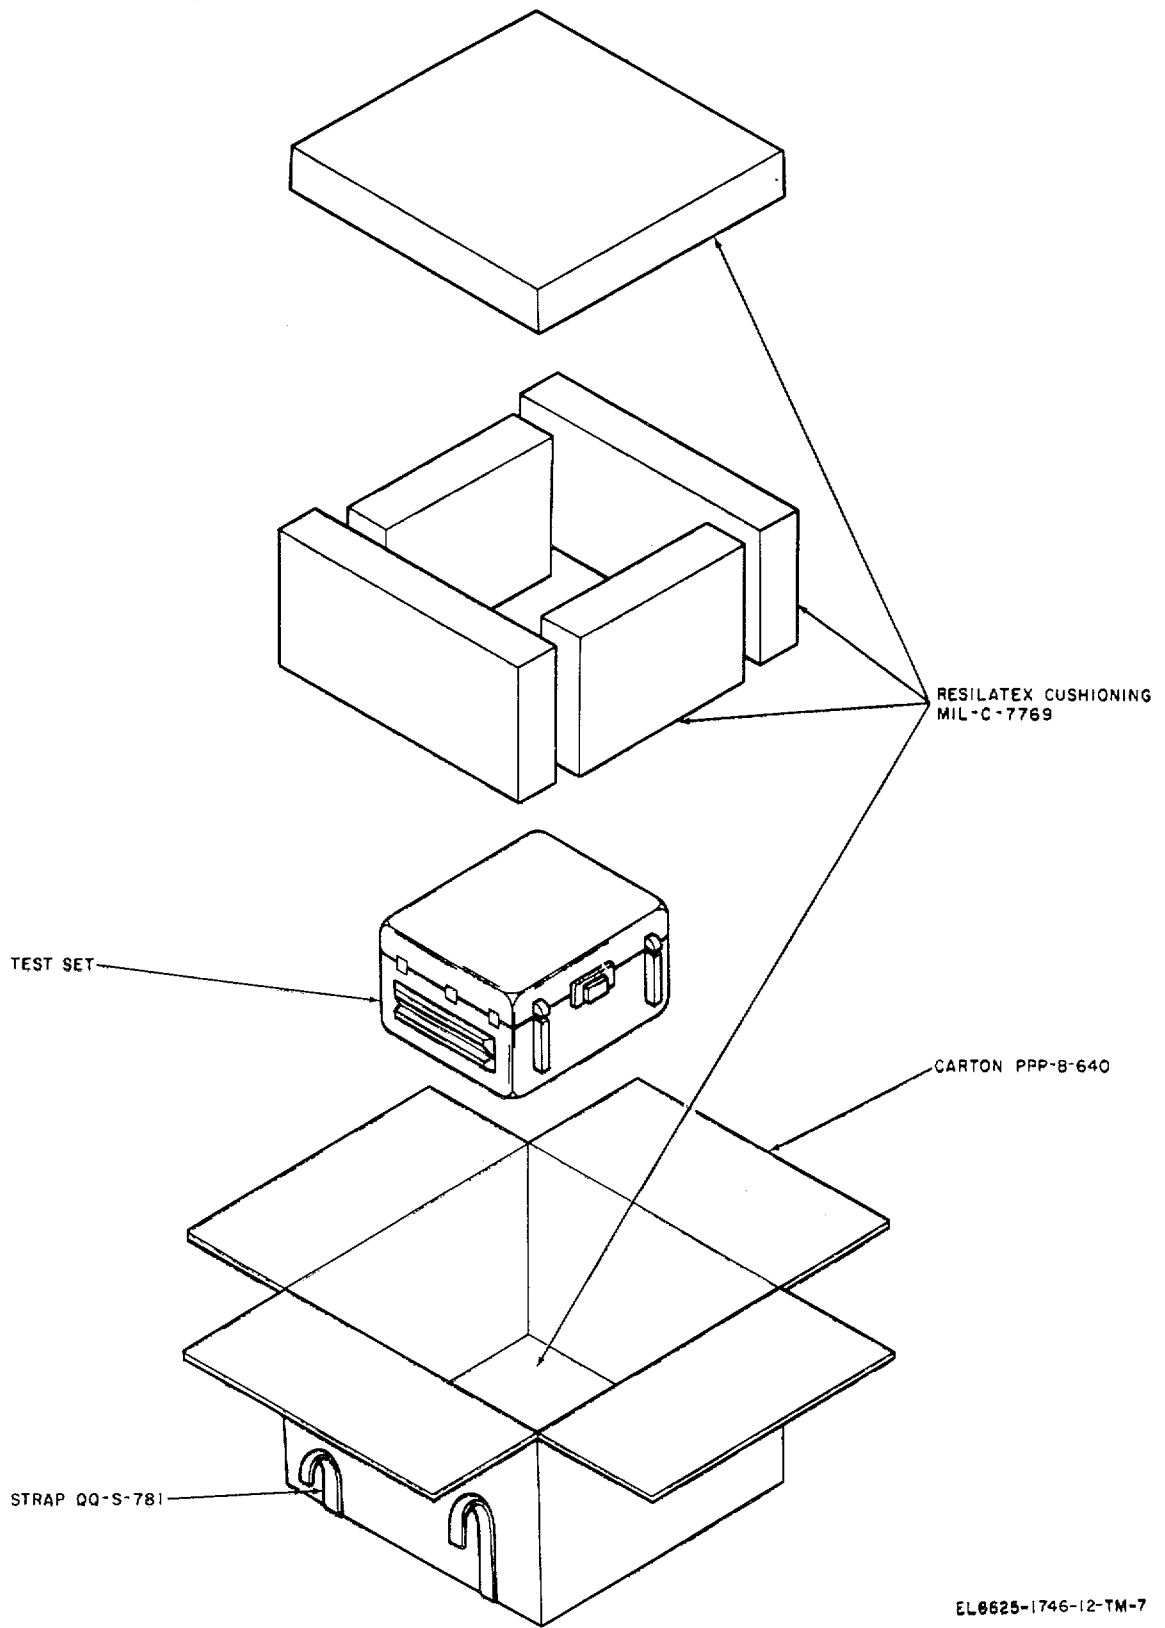

Figure 2-1. Test Set, Radar Altimeter System AN/APM-323, typical packaging.
a. The system test set is packaged in a standard regular service carton. A typical packaging arrangement is shown in figure 2-1.